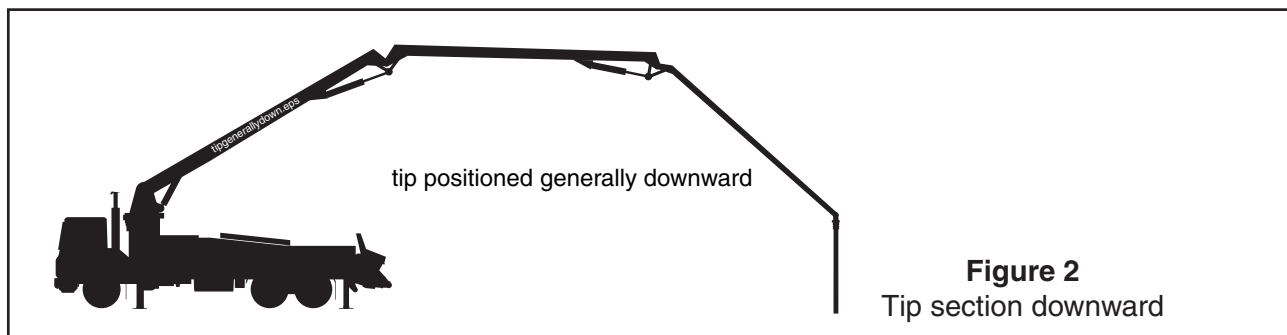

Figure 2
- 3.2 the pump is shut off during pumping, and the boom's tip section is in a generally down position, such as that shown in figure 2, or